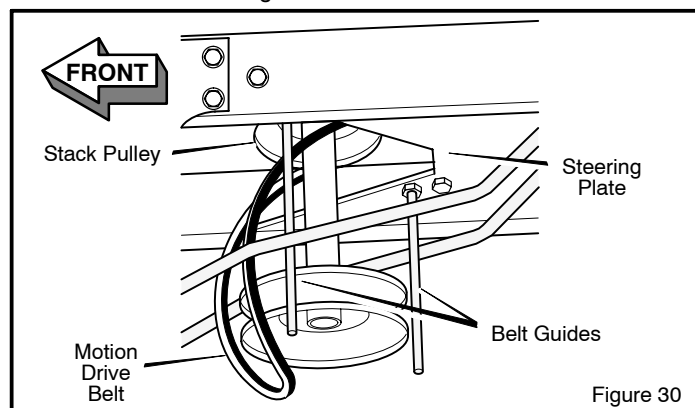

Figure 30
7. To remove the **motion drive belt** from the **stack pulley**, pull the front end of the belt under the **stack pulley** and then back between the stack pulley and the **steering plate** (Figure 30).
1. Slide the **motion drive belt** between the **stack pulley** and the **belt guides** (Figure 30). Install the **motion drive belt** on the top pulley of the **stack pulley**. Make sure the "V" side of the belt is against the pulley.